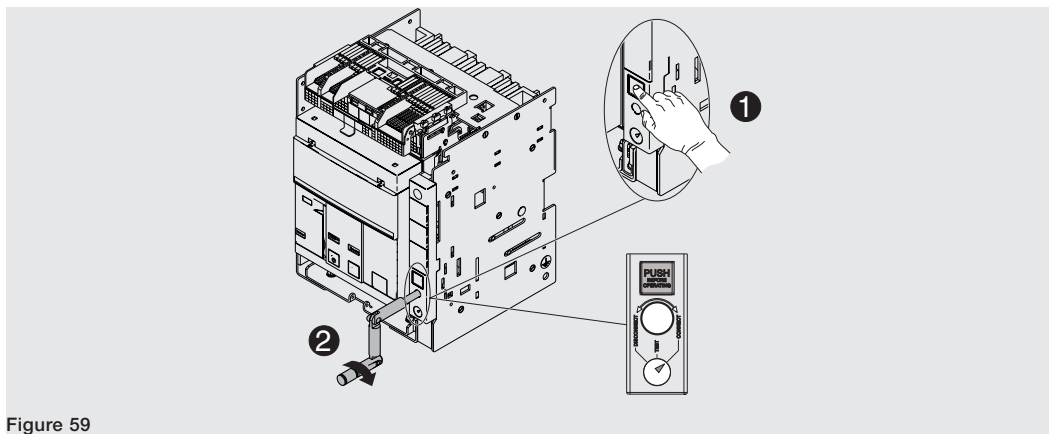

Figure 59
7. Press the lock button and then rotate the crank clockwise until the button comes out and the indicator shows that the circuit-breaker is in the **CONNECT** position. See Figure 59.